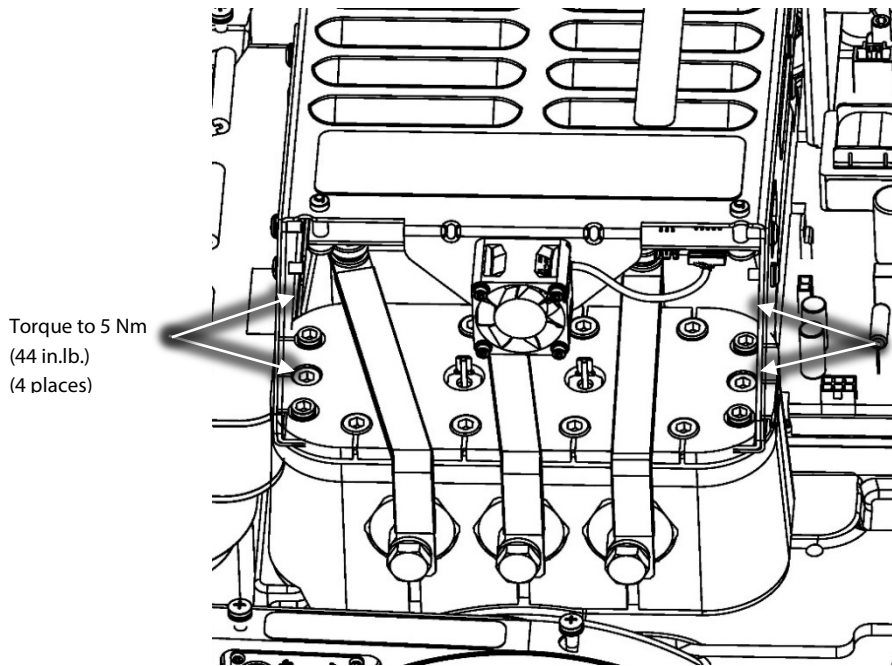

Figure 3 – Soft Start Mounting Screws
10. Remove the M5x15 fasteners that secure the Soft Start mounting bracket to the compressor. Refer to Figure 3 (Soft Start Mounting Screws).